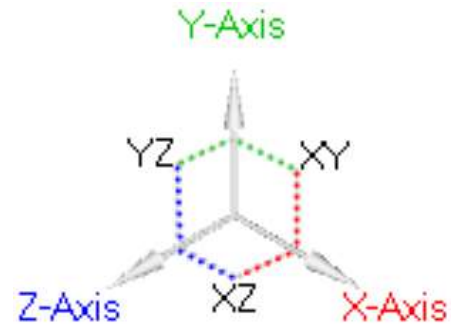

Figure 75
2. Setting the **View** to **Isometric** is an easy way to identify where and how you want to align your model, **Figure 75** illustrates the position of system planes relative to the **Isometric** view.